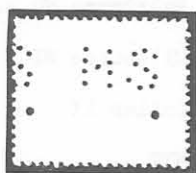
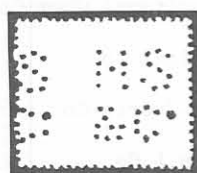

Figure 2
Figure 3
2. Australia HS. I am sure many of you have noted the Australia HS (Figure 2) Perfin with the large hole under the S. I have wondered if this was a code hole or what. However, recently I acquired an HS/&Co (Figure 3), and now realized where the large hole came from, but am still not sure of the why. As can be seen, the &C were removed, but the o was left. The HS also exists without the large hole, and may have been a later modification, but the issues seem to overlap. The user of this Perfin has been reported as Howard Smith & Co. Does anyone know the reasons for the change?